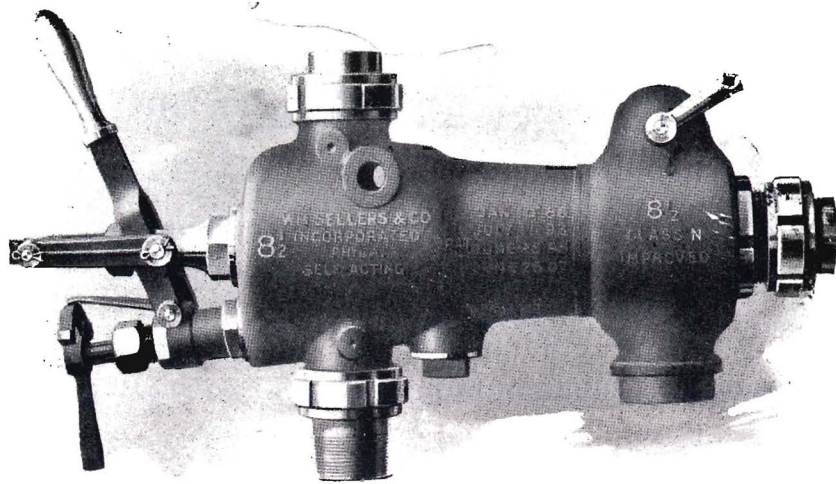

Fig. 1
8. Lifting injectors usually are located on either side of the boiler and may be a foot or so above the top water line of the tank. Fig. 1 shows one type of lifting injector. The steam pipe is at the top of the body and the water supply pipe at the bottom of the body. The operating handle is at one end of the body and the delivery pipe, which leads to the check valve of the boiler, is at the other end of the body. The second handle below the main operating handle is the water supply regulating valve. The second pipe at the bottom of the body is the overflow pipe.
10. Refer to Figs. 1, 2, and 3. The first movement of the operating handle, 33, opens the steam valve to its priming position. This directs a jet of steam into the combining and condensing tube, 2. This steam flows out of the openings in this tube and into the body of the injector. The steam raises the overflow valve, 30, and discharges through the overflow pipe, 57. This flow of *steam* creates a partial vacuum in the space around the steam nozzle, 3. The water supply pipe, 23, is open into this space. As a result, atmospheric pressure forces the water from the tank into the space around the steam valve of the injector, where it mingles with the jet of steam in the combining and condensing tube. The *water* condenses the steam and flows with it through the combining and condensing tube and out of the openings of this tube into the body of the injector and then out through the overflow pipe in a large, slow-moving stream. This action is known as the priming of the injector.
14. Figures 1, 2, and 3 illustrate a Sellers Self-acting Injector. The principle of operation of this injector has been explained. The lever, 34, above the overflow pipe provides for the positive closing of the overflow